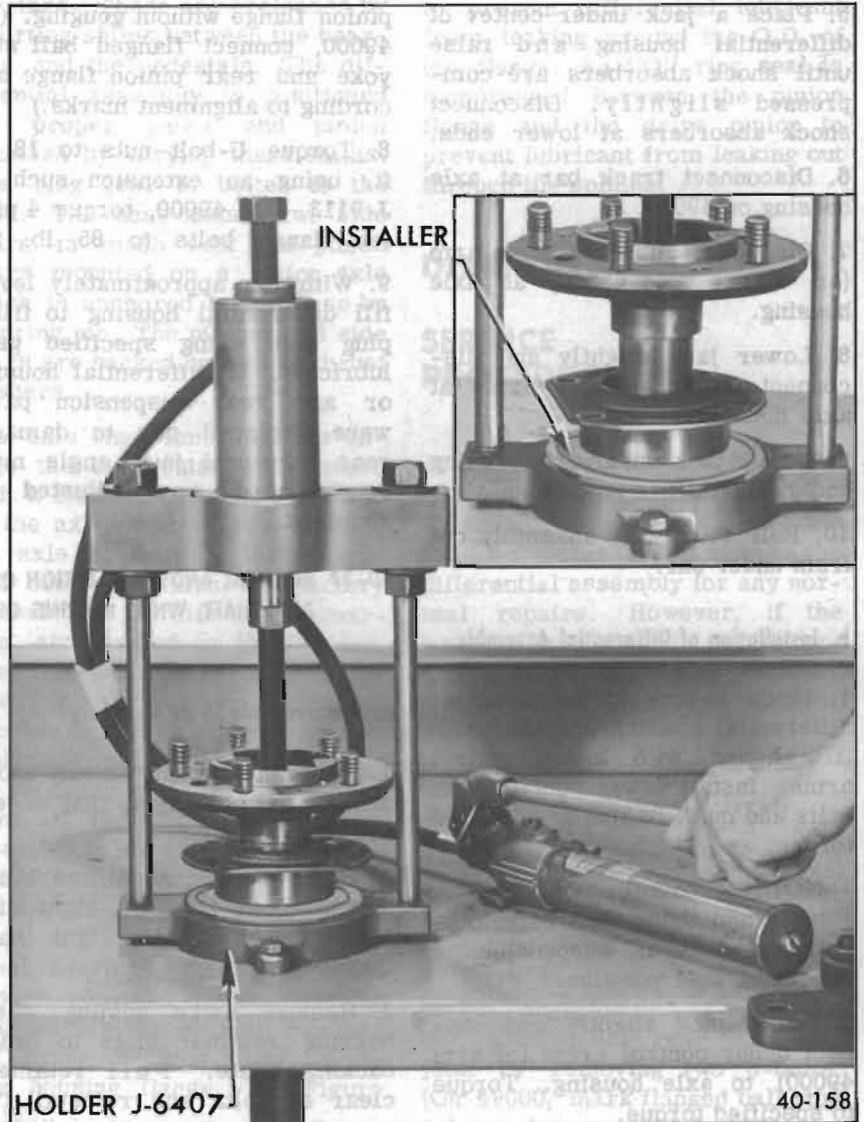

Figure 40-148—Installing Axle Shaft Bearing
3. Install bearing retainer plate. Press new bearing against shoulder on axle shaft using Installer J-9739 either in a press or in a set-up using Ram and Yoke Assembly and Holder J-6407 shown in Figure 40-148.